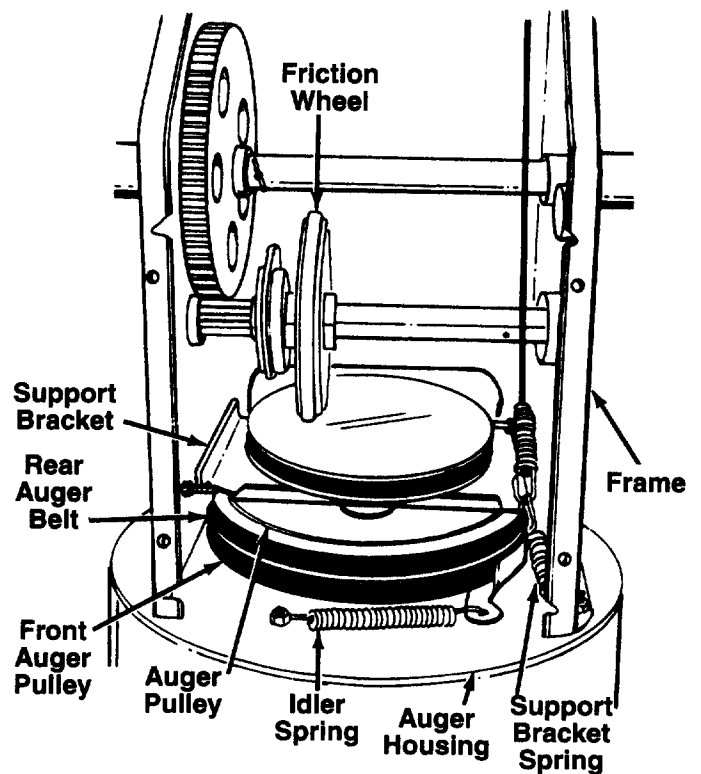

FIGURE 20.
6. Unhook the idler spring from the hex bolt on the auger housing. See figure 20.
8. Lift the rear auger belt from the auger pulley, and slip belt between the support bracket and the auger pulley. See figure 20. Repeat this step for front auger belt (except model 610E).